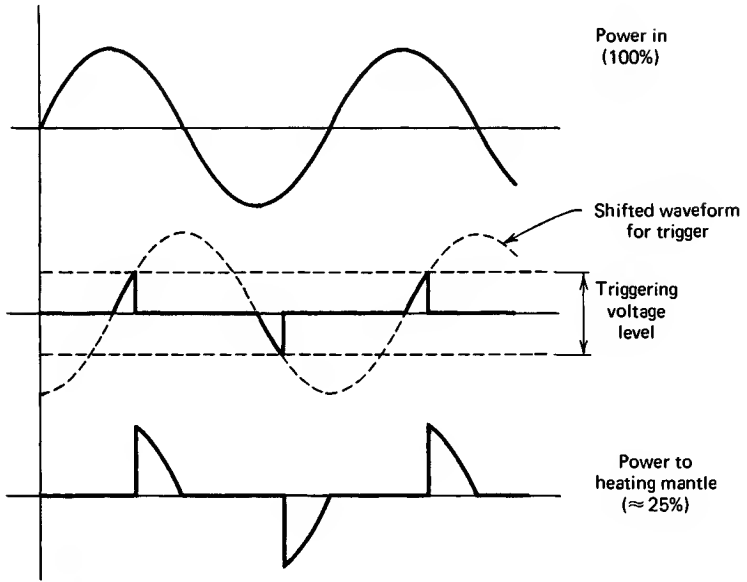

Fig. 64 Light dimmer and heating mantle triac power control.
3. ***The electronic stepless controller.*** Would you believe a *light dimmer*? The electronic controller has a *triac*, a semiconductor device, that lets fractions of the a.c. power cycle through to the heating mantle. The a.c. power varies like a sine wave, from 0 to 120V from one peak to the next. At a setting of 25%, the triac remains off during much of the a.c. cycle, finally turning on when the time is right (Fig. 64). Although the triac does turn “full-off and full-on,” it does so at times so carefully controlled, that the mantle never sees full line power (unless you deliberately set it there).